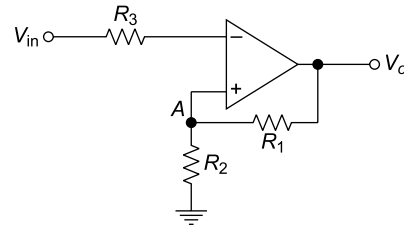

Fig. 5.73 Schmitt trigger circuit
Figure 5.73 shows a Schmitt trigger circuit. The input voltage is applied to the inverting (−) input terminal and feedback voltage is applied to the non-inverting (+) input terminal.
5.27 In a Schmitt trigger circuit as shown in Fig. 5.73, $R_1 = 10 \text{ k}\Omega$, $R_2 = 5 \text{ k}\Omega$, $V_{in} = 10 \sin \omega t$ and saturation voltage $\pm 15 \text{ V}$.